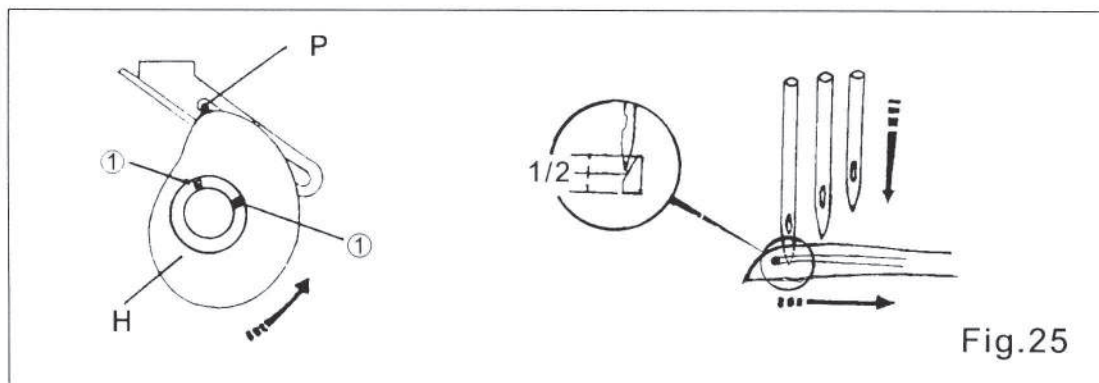

Fig.25
1. When Needle comes down from the highest position, and the left Needle reaches around 1/2 position of the Looper. (Fig. 25)